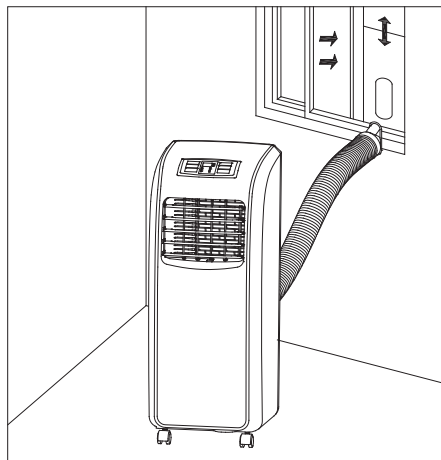

Fig. 8
2. Place the short connector flat end on the exhaust tube onto the oval opening of the window sealing insert kit (fig. 8 and 9).